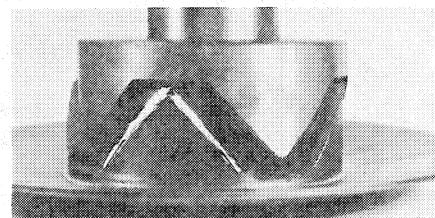

Fig. 7
7. Using 1/4" or 3/8" rubber blocks as spacers, place outboard end cap over cam pads and rubber blocks. Place assembly in arbor press, or use C clamps and apply a slight clamping force. (See Fig. 7.)